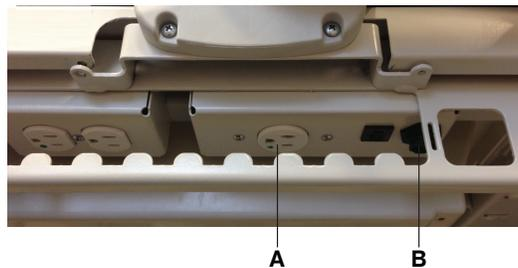

Figure 37 – InTouch auxiliary mattress outlet and integration cable
Note - Make sure that you plug the support surface power cord into the **InTouch** auxiliary mattress outlet (A) and the integration cable to the mattress connector (B) (Figure 37).